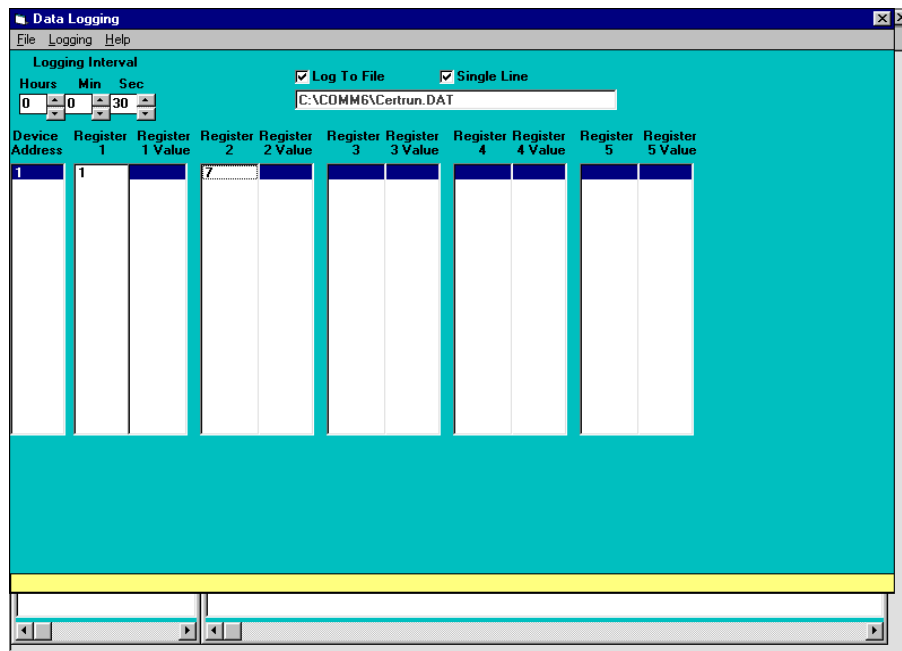

Figure 2: COMM6 Data Logging Window.
- 10.2.1.1.1 Under the OPTIONS menu, click on the DATA LOGGING option. In the DATA LOGGING window (see Figure 2), click the **Log to File** box, the **Single Line** box. Change the file name to C:\COMM6\Whatever.DAT'. Since COMM6 is an old program, file names are limited to eight characters.